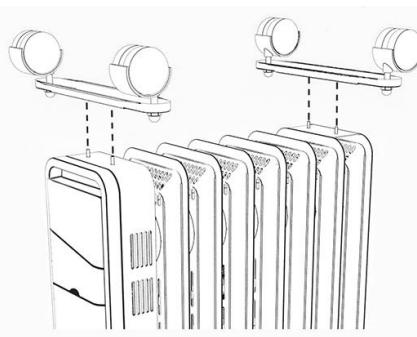

Fig.2
2. Position the wheelbase assemblies between the end fins.(Fig.2)